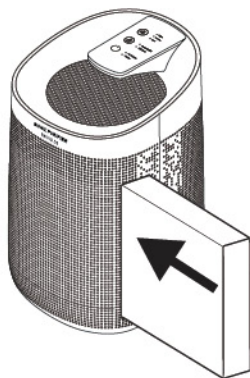

fig. 4
4. Carefully place the new filter in the device (fig. 4).